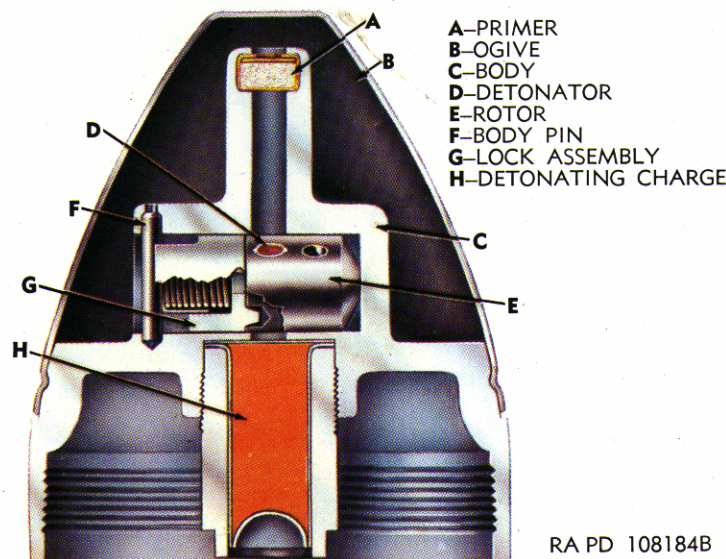
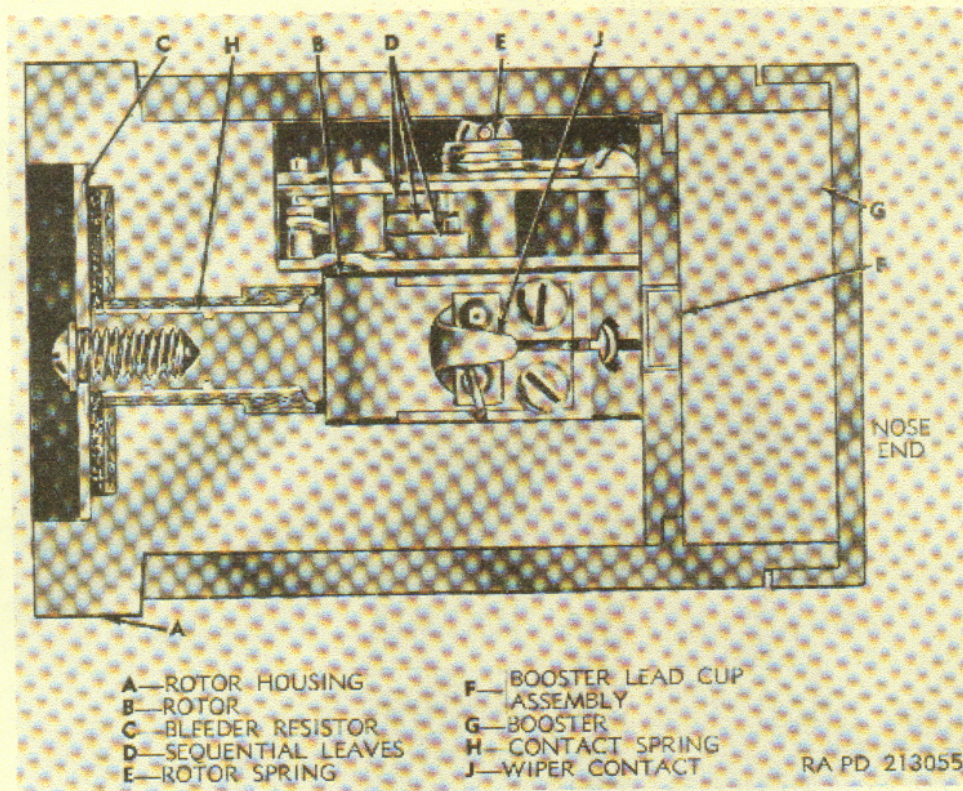

Figure 24. Fuze, PI: M90A1.
Figure 25. Fuze, PIBD: M509.
- (1) Remove the pull wire.
- (2) Set the fuze to the desired time, using the fuze setter.
*a. General.* The fuze M90A1 (fig. 24) is a single-action, superquick fuze designed for use with 57-mm HE, AT projectiles. The fuze differs from point-detonating fuzes in that initiation is by impact of the target directly against the fuze primer. The fuze is characterized by internal threads for engagement of the pro-
*Note.* The key letters shown in *c* through *e* below in parentheses refer to figure 24.
*c. Description.* The fuze consists of a die-cast body (C) with a neck, which houses the primer (A). A cavity in the middle of the fuze body, extending across and perpendicular to the fuze axis, holds a rotor (E) and a lock assembly (G), consisting of a lock, lock cup, and lock spring. A body pin (F) serves to hold the lock cup and lock spring. An auxiliary detonator assembly screwed into the base of the fuze body holds a shaped auxiliary detonating charge (H). The entire forward part of the fuze body and its mechanism is covered by a thin steel ogive (B).
*d. Safety Devices.* Boresafety is provided for by the rotor and lock assembly, which holds the detonator (D) in the unarmed position prior to firing.
*e. Functioning.* When sufficient rotational (centrifugal) force is established, the lock moves outward against its spring, releasing the rotor to turn on its axis. After setback, the rotor turns to the armed position, in which the detonator is parallel to the fuze axis and aligned with the firing pin. Upon impact, the ogive is crushed and the primer initiated. Action of the primer (A) is transmitted through the detonator (D) to the auxiliary detonating charge (H), which initiates the booster pellet at the base of the projectile flash tube, which causes the projectile to function.
*a. General.* The fuze (fig. 25) is a single-action, superquick, point-initiating, base-detonating type provided for use with HE, AT projectiles. The fuze, which is not visible when assembled in the cartridge due to its location in the projectile, is connected electrically to a piezoelectric element (polarized barium titanate) in the nose of the projectile. Impact
*Note.* The key letters shown in *b* through *d* below in parentheses refer to figure 25.
*b. Description.* The fuze consists essentially of a rotor housing (A), which contains a rotor (B) with a detonator; a bleeder resistor (C); sequential leaves (D); and a rotor spring (E). Forward of the rotor housing is a booster lead cup assembly (F) with booster lead charge and a booster (G). Electrical contact between the rotor housing and rotor is made through the contact bushing (H) and wiper contact (J) when the rotor is in the armed position.
*d. Functioning.* Setback force, incident to firing, acts to displace the sequential leaves (D) until the final leaf is locked in its rear-most position and the rotor is free to move to the armed position. The rotor spring (E), after acceleration has been reduced to approximately 200g's, causes the rotor (B) to turn 90° so that the wiper contact (J) in the rotor is connected to the contact bushing (H) in the rotor housing, completing the electrical circuit and arming the fuze. Upon impact, the piezoelectric element in the nose of projectile is stressed, generating an electrical impulse, which initiates the detonator M48, and thus, the explosive train of the projectile.